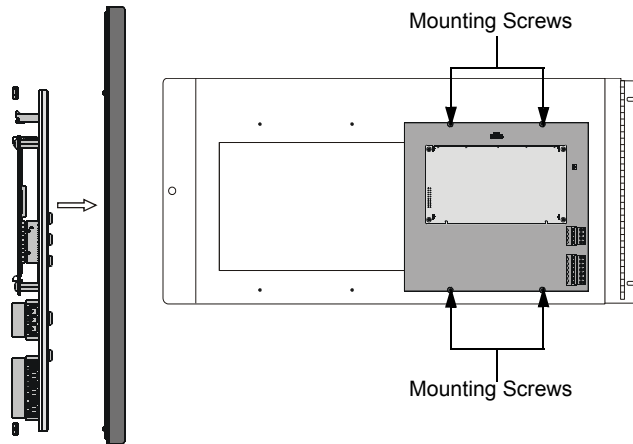

**Figure 5.1 Pull Wiring into Enclosure**
2. Pull wiring into backbox (Figure 5.1).
Select an appropriate knockout on the enclosure for your wiring to run through and snap it out. Fasten the cabinet or backbox to the wall. Ground the enclosure to a solid metallic ground, such as a grounded cold water pipe. Pull all LCD-160 wiring into the enclosure as illustrated in Figure 5.1. Connect LCD-160 wiring to the removable terminal blocks as specified in “Connecting the RDP Bus” on page 18.